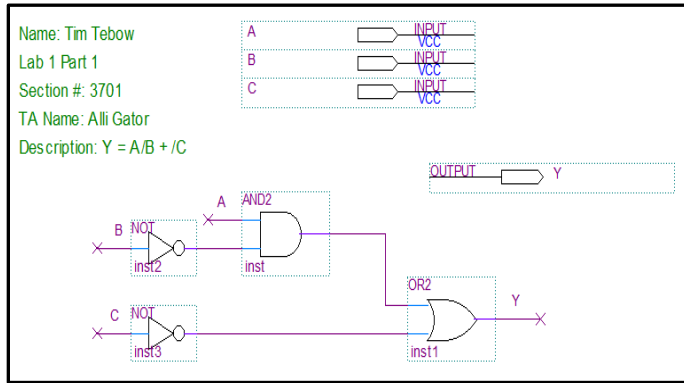

Figure 4: Bdf with inputs and outputs
1. In the same manner that you placed a gate onto the bdf, add three input pins from the “Symbol” libraries. Input pins can be found under “primitives | pin | inputs” (or just type **input** just as you typed **not** previously in the “Name:” box). I suggest placing these inputs together, above your logic diagram and just to the right of your name as shown in Figure 4.
- In the same manner and in the same library that you found the input pins, add an output pin from the “Symbol” library. I put this output pin under and to the right of the input pins. Change the pin name to ‘Y’ on the output port, as shown in Figure 4.
- The “A” label will connect the input labeled “A” to this wire. Similar connections are made by the labels on the other inputs and output. The bdf should look similar to Figure 4.